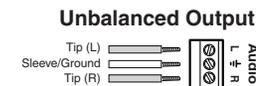

Figure 2-7 — Unbuffered, unbalanced audio connector wiring
- Audio output connection** — This 3-pole direct insertion terminal outputs unbalanced audio, passed through from the front panel. Figure 2-7 shows how to wire the connector.